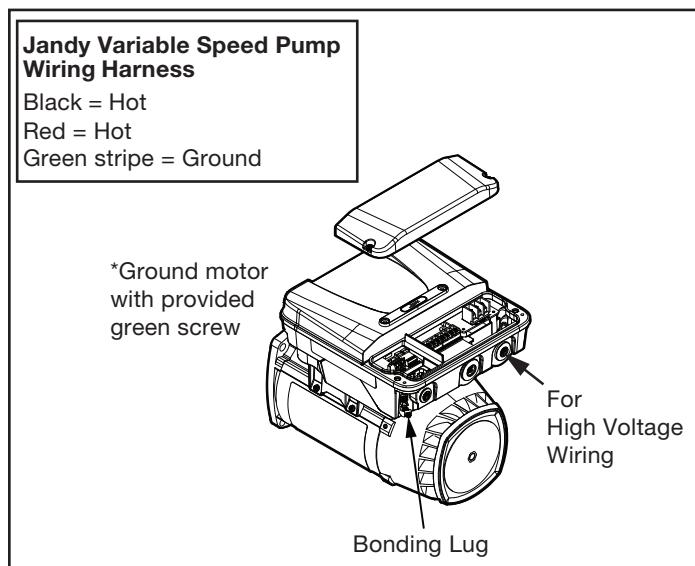

Figure 10. Jandy External Bonding
6. Permanently ground the motor using the green ground wire, as shown in Figure 10. Use the correct wire size and type specified by National Electrical Code (NEC) and the Canadian Electrical Code (CEC). Make sure the ground wire is connected to an electrical service ground.
7. Bond the motor to the pool structure in accordance with the National Electrical Code (NEC) and the Canadian Electrical Code (CEC). Use a solid No. 8 AWG or larger copper conductor (US). Run a wire from the external
- bonding lug to the pool bonding structure, as shown in Figure 10.
8. Connect the red and black wires of the pump to the two line side connections on the filter pump relay as shown in Figure 10.